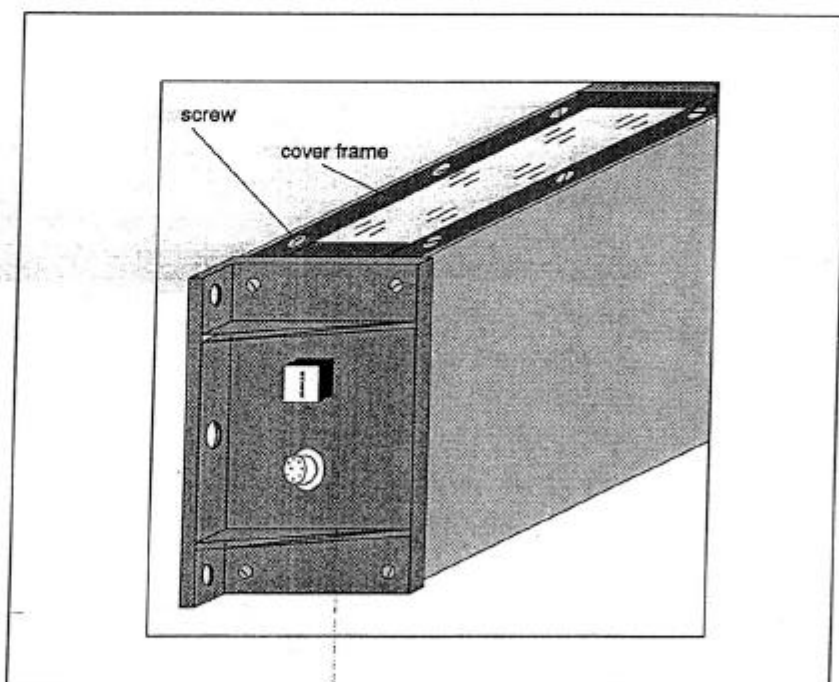

Figure 12-1 Removal of cover frame
1. Loosen eight screws (M3) and remove cover frame (Figure 12-1).